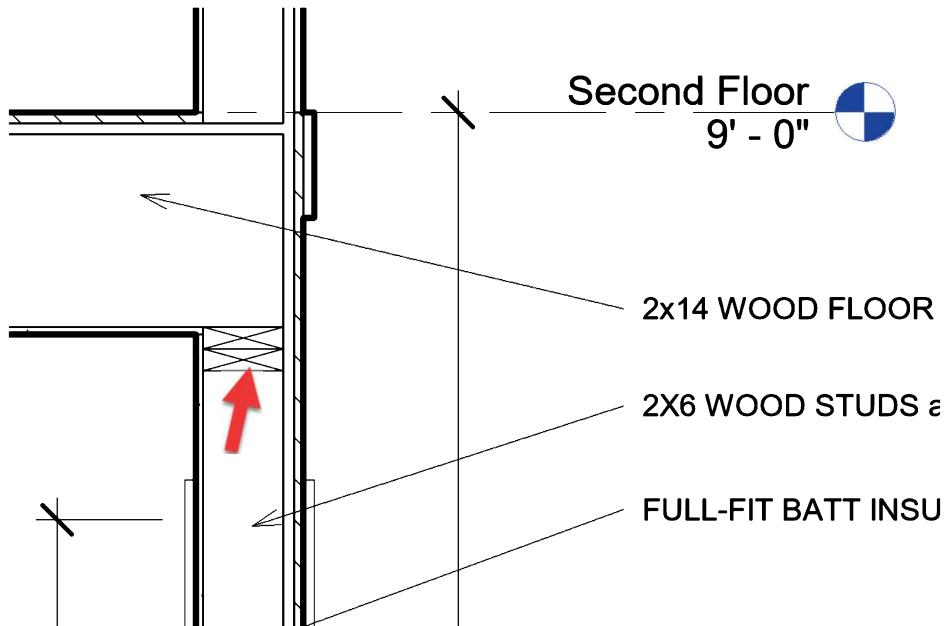

FIGURE 11-4.9 Cross Section 1 – Callout 1 view; 2 x 6 dbl. top plate added
19. Use **Copy** and **Snaps** to add the double top plate (Figure 11-4.9).